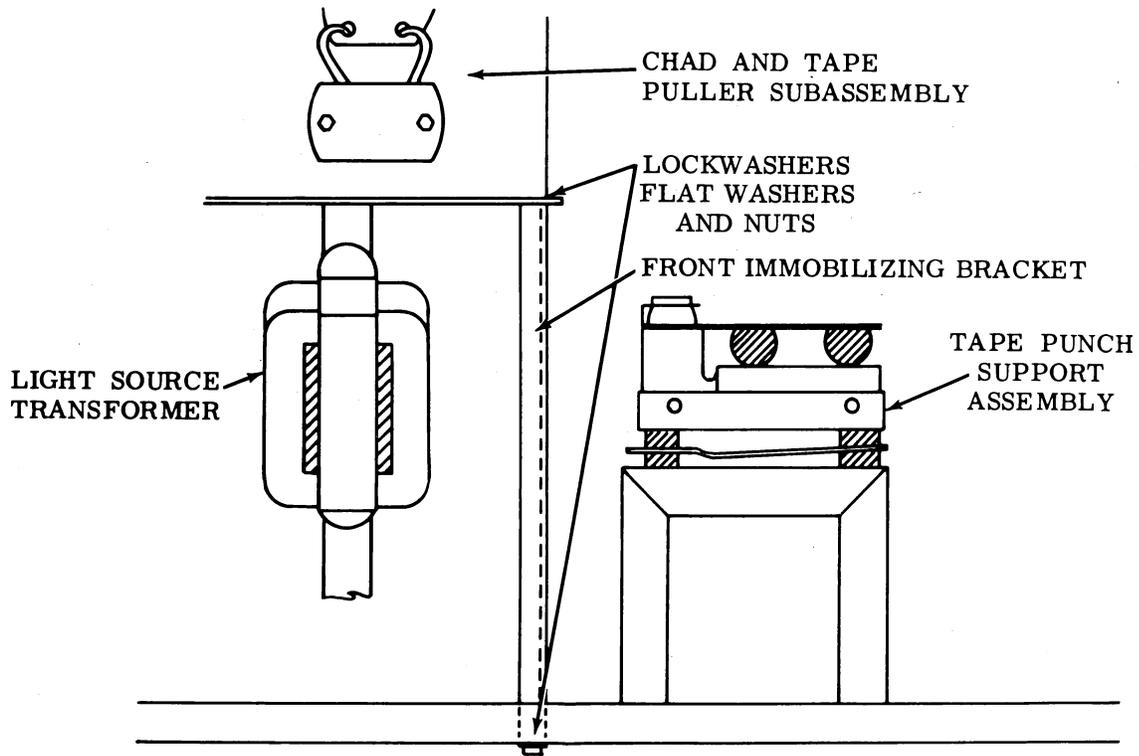

Figure 10 - Tape Punch Immobilizing Hardware
2.18 Remove and discard the tape puller mechanism front immobilizing bracket and hardware (Figure 10).